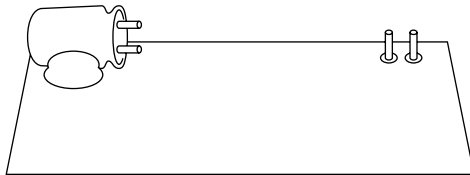

FIGURE 11-2: Glue the component in an out-of-the-way spot.
2. Find a spot within the instrument case, as close to the original location as possible, to fasten the relocated component where it will now be out of the way (a little dab of hot-melt glue is good for this; see Figure 11-2).